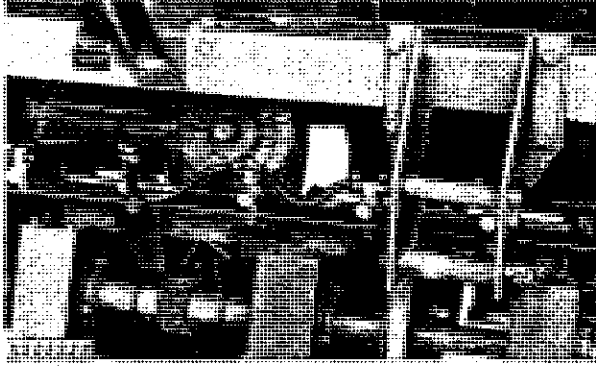

Fig. 16-Removing Gear Case
8. Lay a 4x4-inch (102 x 102 mm) wooden block (or something similar) on top of the cutter wheel units—under the gear case (Fig. 16). Completely remove the four gear case bolts (G, Fig. 15) and allow the gear case to drop onto the block.